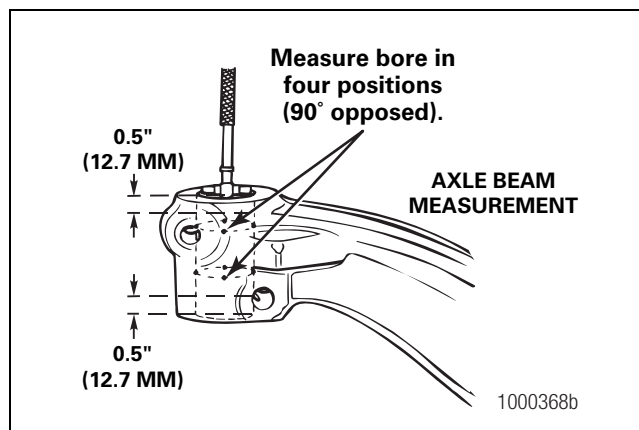

Figure 5.6
- 0.5-inch (12.7 mm) below the top of the bore. Figure 5.6.
- 0.5-inch (12.7 mm) above the bottom of the bore. Figure 5.6.